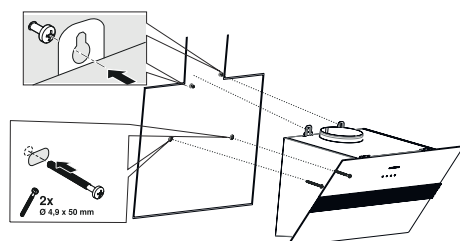

Fig. 14
- 1.** ➤ Hold the appliance by its body and place it on the suspension screws on the wall and tighten the screws (Fig. 14).
- 2.** ➤ Fix the appliance with 4.9x50 screws through the mounting hole on the interior of the appliance (Fig. 14).